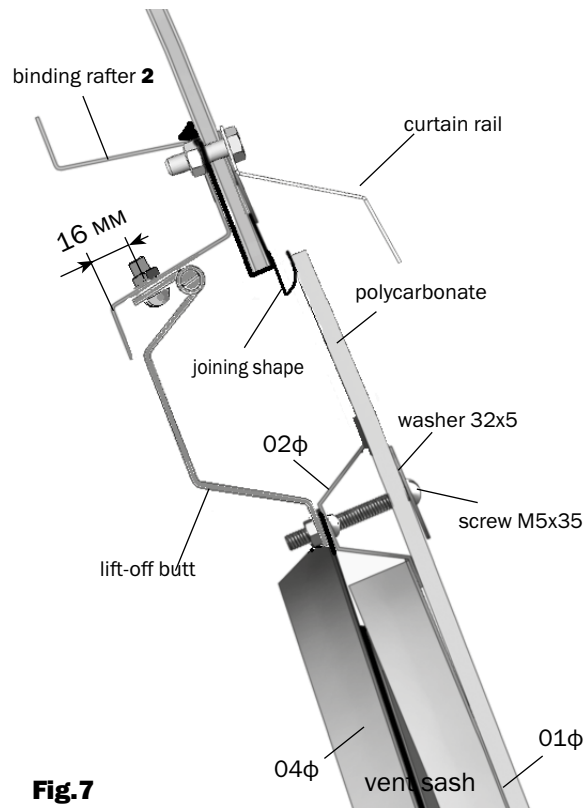

Fig.7
- 7.** Fit the vent sash to the window aperture, mark the holes for the lift-off butts and then drill 4 holes on the beam (**fig. 7**)